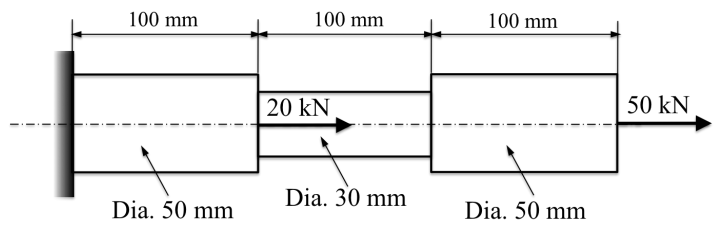

Figure 4
4. A solid circular rod is subjected to uniaxial loads 50 kN and 20 kN as shown in Figure 4. Find the elongation of the rod due to the loads. The Young's modulus and Poisson's ratio of the rod material are  $E = 70$  GPa and  $\nu = 0.3$ , respectively. (14)